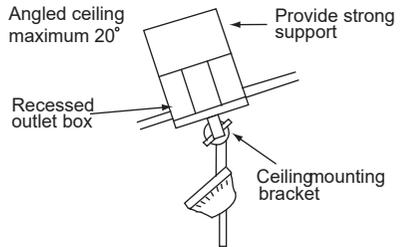

Fig.3
**Note:** You may need a longer downrod to maintain proper blade clearance when installing on a steep, sloped ceiling. (Fig. 3)